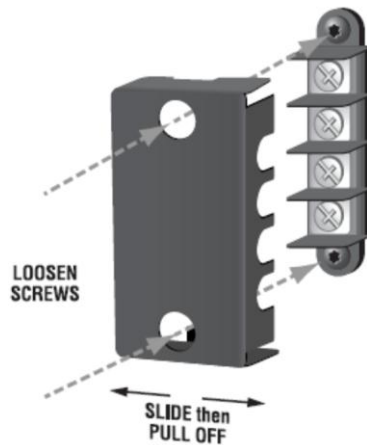

Figure 2.4 - Removing Barrier-strip Cover
1. Loosen screws inside top and bottom holes of cover (see **Figure 2.4**).